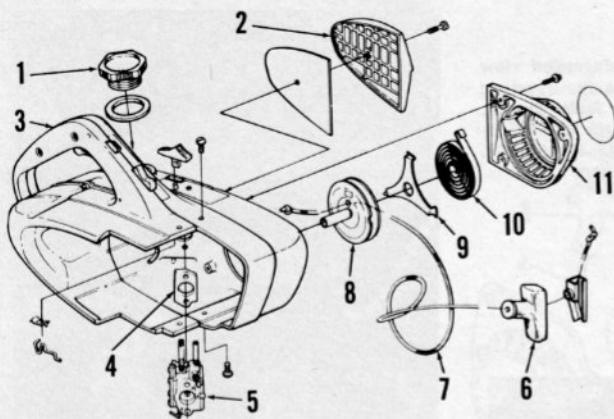

Fig. HL150-View of engine housing and recoil starter.
RECOIL STARTER. To remove recoil starter, insert a screwdriver between air intake slots to hold rope pulley (8—Fig. HL150) in starter housing during removal. Unscrew starter housing screws and remove starter. Pull starter rope and hold rope pulley with notch in pulley adjacent to rope outlet. Pull rope back through outlet so that it engages notch in pulley and allow pulley to completely rewind. Lift out rope pulley and carefully remove spring retainer (9) by pressing down in center of retainer while freeing retainer legs. Care must be taken if rewind spring is removed to prevent injury if spring is allowed to uncoil uncontrolled.